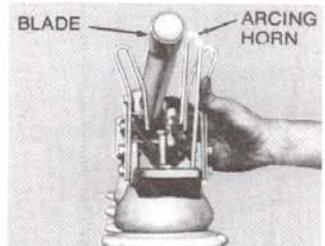

Figure 8 - Arcing horn adjustment.
(Fig. 8)
**A. Arcing horns** are shipped fully assembled and adjusted on the switch, but adjustment may become necessary. The arcing horn should be turned so that the curve is against the blade as shown in Figure 8.
**B. Operate switch.** Blade should make a light to firm sliding contact from the top of the curved horn to the fully closed position when the blade is rotated into the jaw contacts. Readjust the position of the arcing horn by bending as shown in Figure 8, until action is correct as described.